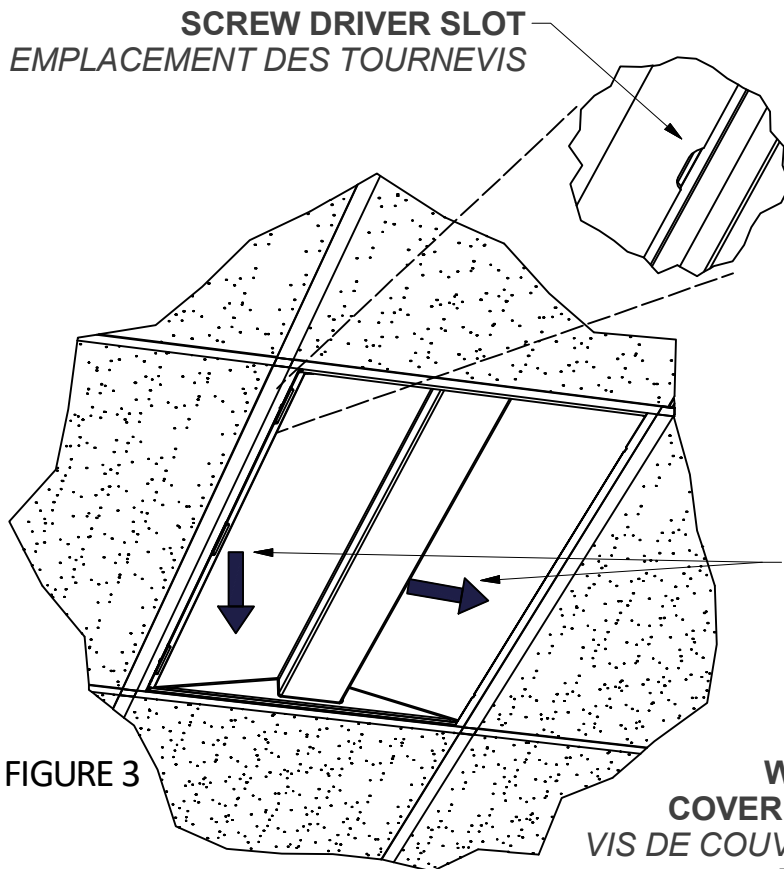

FIGURE 3
**SHIFT LENS TO ONE SIDE UNTIL THE LENS IS FREE FROM THE HOUSING. YOU MAY USE A SCREWDRIVER TO ASSIST LENS REMOVAL USING THE SCREWDRIVER SLOT. REVERSE STEPS TO REINSTALL LENS (SEE FIGURE 3)**
*DÉCALER LA LENTILLE D'UN CÔTÉ JUSQU'À CE QUE LA LENTILLE SOIT LIBRE DU LUMINAIRE. VOUS POUVEZ UTILISER UN TOURNEVIS POUR ÉLIMINER LA LENTILLE À L'AIDE DE L'EMPLACEMENT DU TOURNEVIS. ÉTAPES INVERSEES POUR RÉINSTALLER LA LENTILLE(VOIR FIGURE 3)*